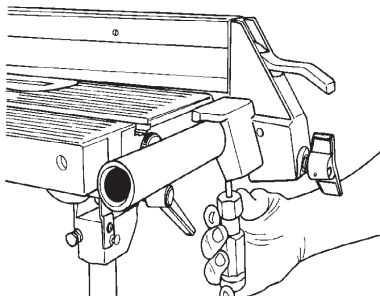

Figure B-98
- g. Reach under the table and use the medium Phillips screwdriver to tighten the screw closer to the base. See Figure B-98.